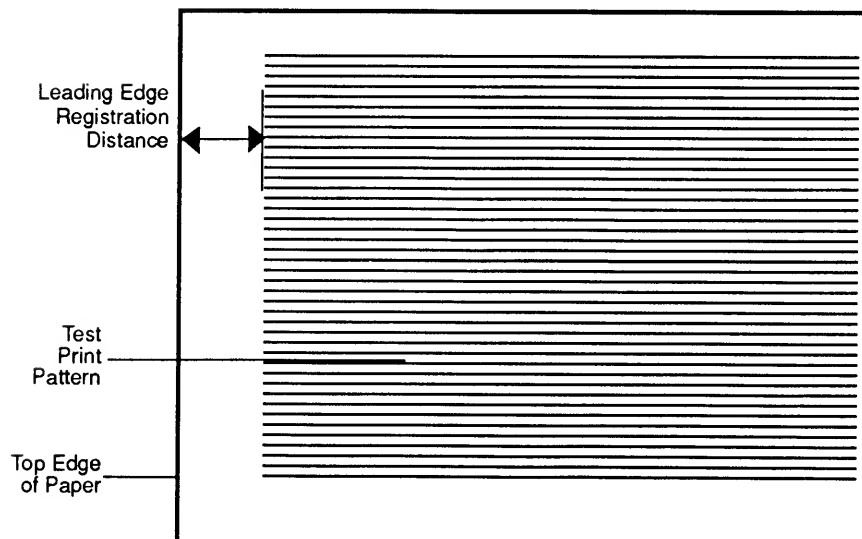

Figure 3-2 Test Print
6. Using a metric ruler, measure the distance from the top edge of each page to the printed test print pattern (**Figure 3-2**). Calculate the average distance by adding the three measurements and dividing by 3.